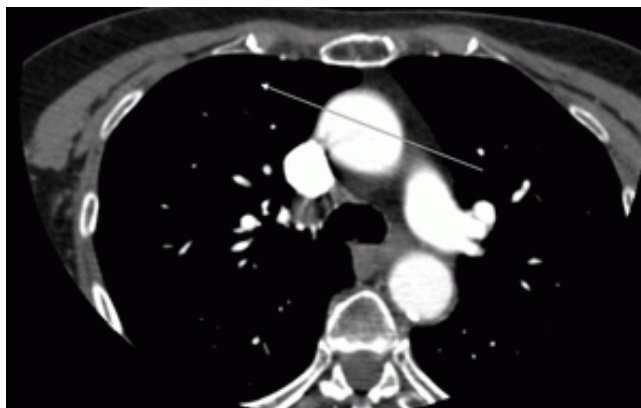

Figure 2.89: Arrow
- Click the mouse button at the point where the arrow tip is to be placed. Click the mouse button again where the opposite end of the arrow should be placed. The arrow is shown in Fig. 2.89.